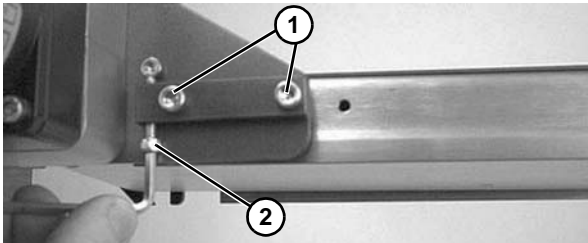

Figure 51
1. Loosen two (2) screws (Figure 51, item 1). Tighten timing belt tensioner screw (Figure 51, item 2) to 15 in-lb (1.7 Nm).
2. Tighten screws (Figure 51, item 1) to 80 in-lb (9 Nm).
1. Loosen two (2) screws (Figure 51, item 1).
2. Loosen timing belt tensioner screw (Figure 51, item 2).
8. Tighten timing belt tensioner screw (Figure 51, item 2) to 15 in-lb (1.7 Nm).
9. Tighten screws (Figure 51, item 1) to 80 in-lb (9 Nm).